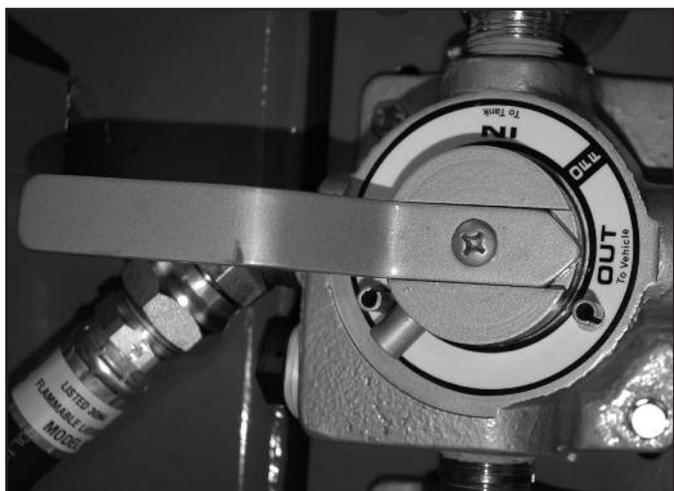

Fig. 3
4. Align valve handle so that the point is position to the "OUT" to vehicle position. (See Fig. 3)